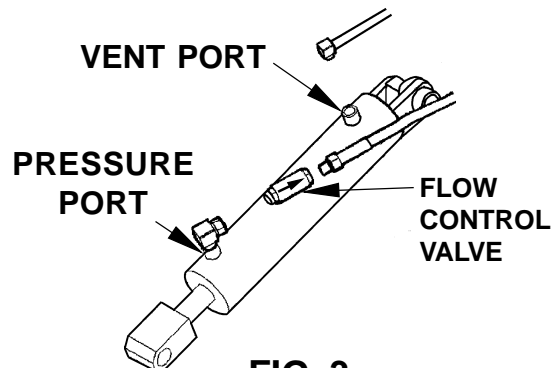

FIG. 3
9. Check the Flow Control Valve. The arrow on the valve shows the direction of flow that is restricted, and Must point back to the Pump. (See FIG. 3)